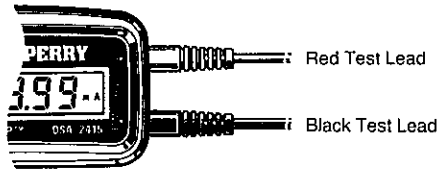

Fig. 6
- (1) Set the power switch to the "V" position.
- (2) Insert the test leads into the volt (V) terminal and common (COM) terminal (Fig. 6).